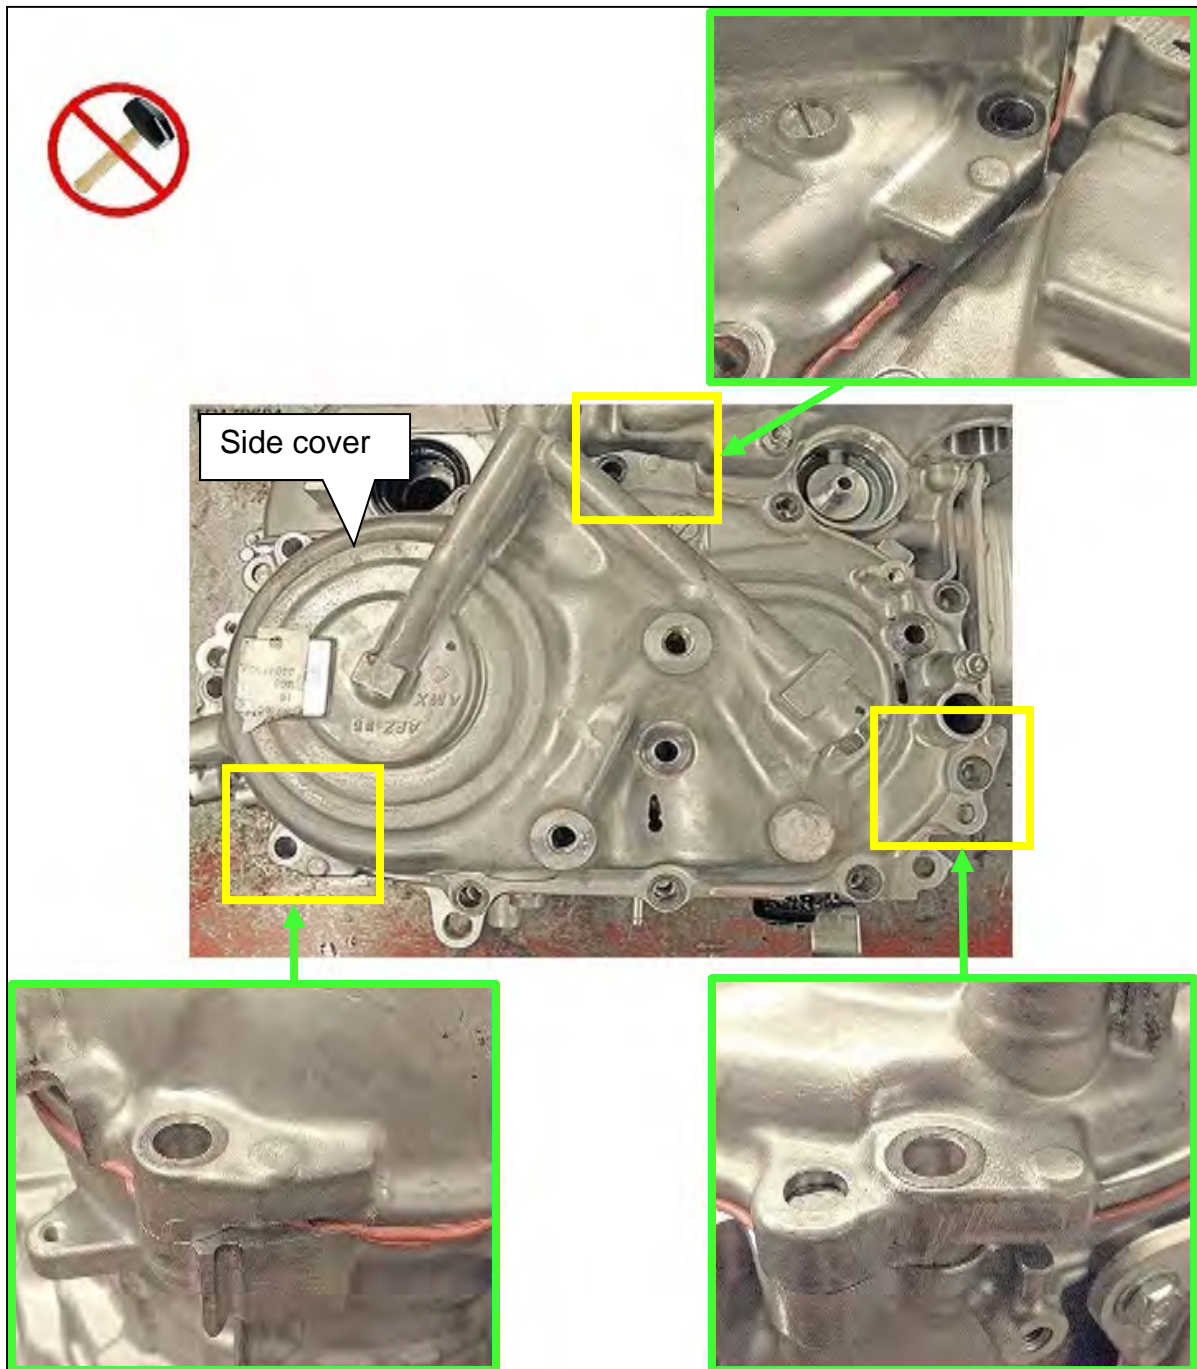

Figure 97
- There are three slide hammer tool points shown in Figure 97.